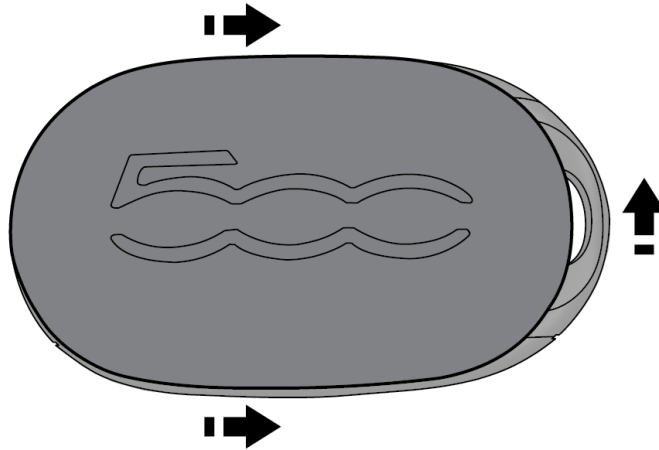

Fig. 1
2. Using the fingertips, move the cover in the direction of the key chain hole until the teeth are released; gently remove the lower cover by pulling it upwards Fig. 1.